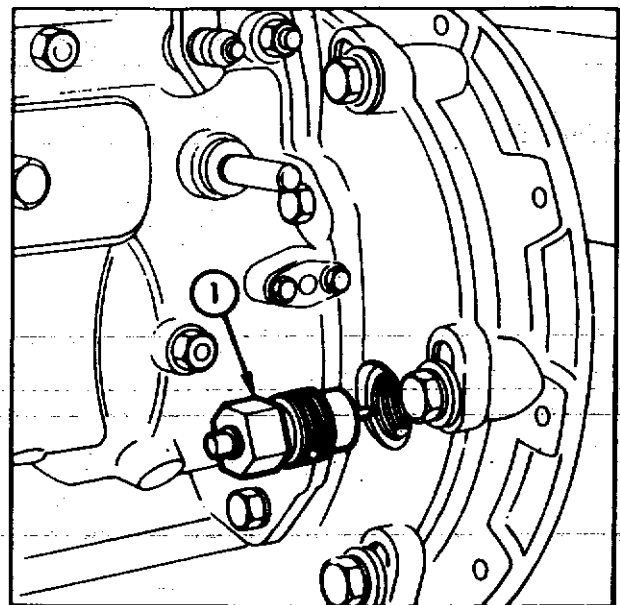

Fig. 17 Timing Aperture Location
2. Remove the plug in the mounting flange of the injection pump, and insert Tool No. C.9077. (Fig. 17). Rotate the gear until the spring-loaded plunger drops into the centre punch mark in the rear face of the gear. Release the plunger and turn the gear 15.88 mm. (5/8 in.) anti-clockwise.
When refitting the pump to the engine, the engine should first be rotated until the timing mark on the timing aperture is in line with the line on the timing scale on the flywheel, and the No. 1 piston is on the compression stroke (See Specifications for appropriate Static Spill timing). A timing mark on the rear face of the camshaft gear will be visible in the injection pump aperture when the engine is on the correct stroke. A timing Tool No. C.9077 should then be inserted into the timing hole in the pump mounting flange (Fig. 17) and the gear rotated until the tool makes positive contact with the indent in the gear, when the pump and gear can be refitted to the engine in correct alignment.